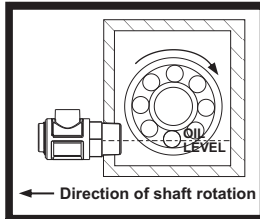

Fig. 1
- Hand tighten Watchdog in a port where the centerline of the main body is at the optimum fluid level (Fig. 1).